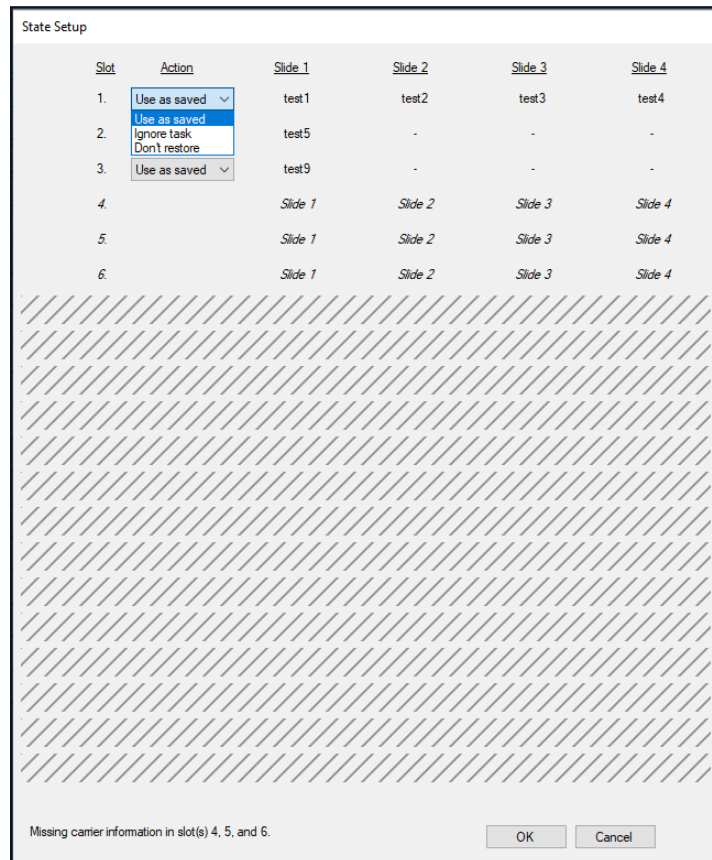

Figure 4.60. Slide setup.
1. When scan information is available and a carrier is present in the hotel, the system will show the slide IDs. (See Figure 4.60, Slot 1.)
2. When scan information is available but there is no carrier present in the hotel slot, the slot will be labeled as Missing in red. (See Figure 4.60, Slot 5.) The slide IDs for that carrier are listed, so one can locate the correct slides, place them in the carrier, and insert the carrier into the hotel.